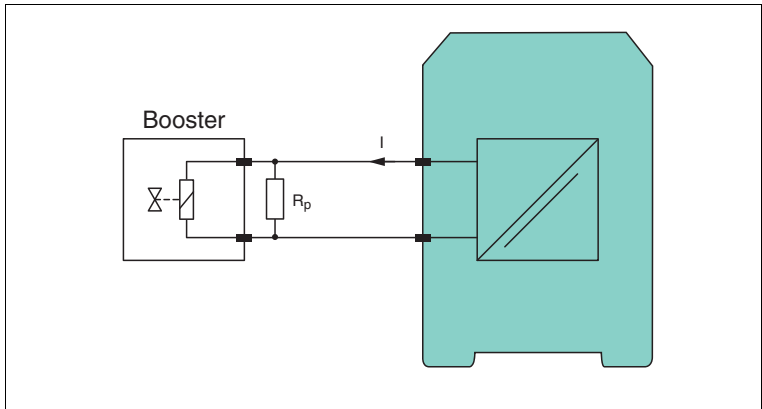

Figure 6.3 Parallel connected resistor near booster valve
1. If the parallel resistance  $R_p$  is large, or putting it another way, the closed circuit current  $I_{quiet}$  of the valve is low, the capacitor  $C$  may under certain circumstances be charged, causing the valve to actuate unexpectedly. The remedy in this case is to connect a  $R_p = 4,7\text{ k}\Omega$  to  $10\text{ k}\Omega$  parallel resistor to the valve terminals (→ see Figure 6.3 on page 15).